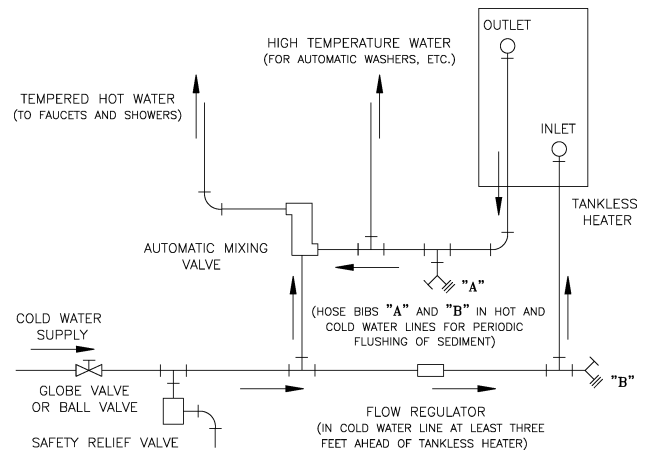

Figure 6: Schematic Tankless Heater Piping
- F. CONNECT TANKLESS HEATER PIPING AS SHOWN IN Figure 6. See Table 2 for Tankless Heater